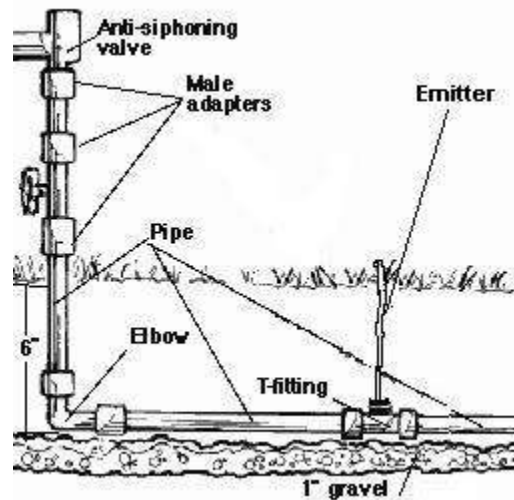

figure 3: Join the valve assembly to the underground piping using the standard methods and materials.
9. Assemble the pipe structure and attach the emitters. Start at the valve assembly as shown in figure 3 and construct backwards from there,. As noted above, line the threads of the male adapters with plumbers tape. The drain valve should be installed at the lowest point in the assembly.